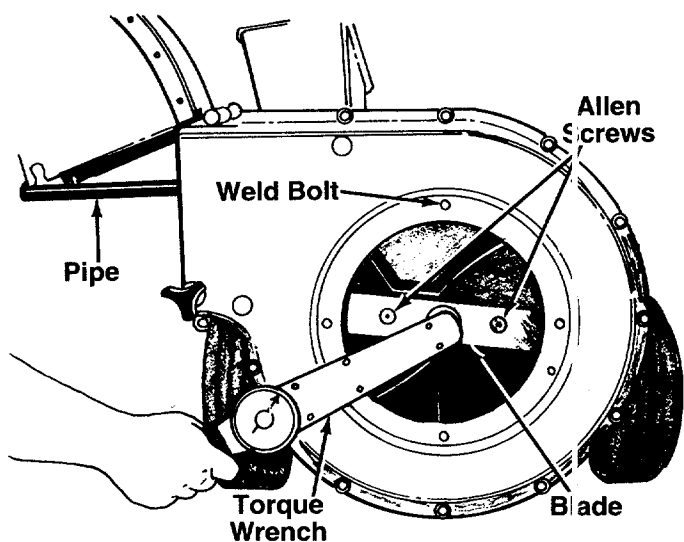

FIGURE 11.
2. Lower the hopper assembly. Block up the hopper. See figure 11.